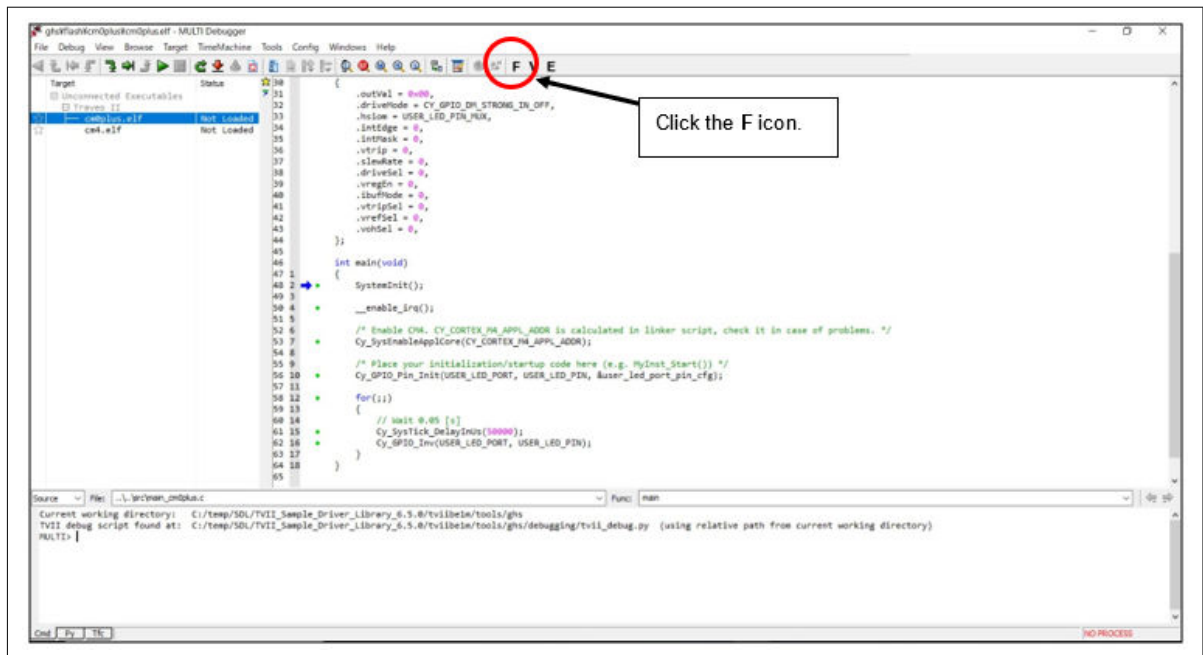

Figure 18 Load to Flash memory
- To load the program to the Flash memory, click the **F** icon as shown in Figure 18. Loading of the program to the Flash memory begins.